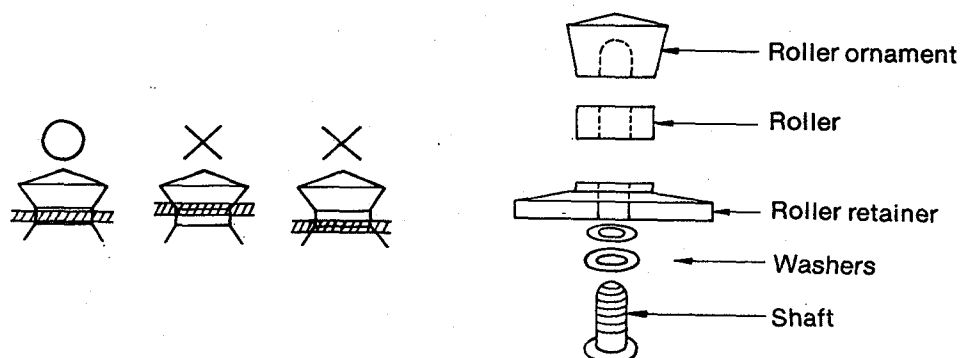

Fig. 17
- If the tape moves up and down as it passes over the tension roller, adjust the number of washers shown in figure 17.